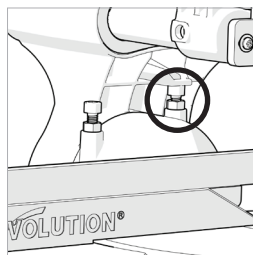

Fig. 14
- Loosen the locknut on the Bevel Angle Adjustment Screw. (Fig. 14)